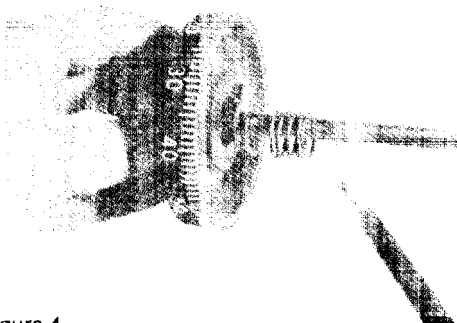

Figure 4
9. Place a washer, compression spring and washer on hub of dial (Fig. 4).